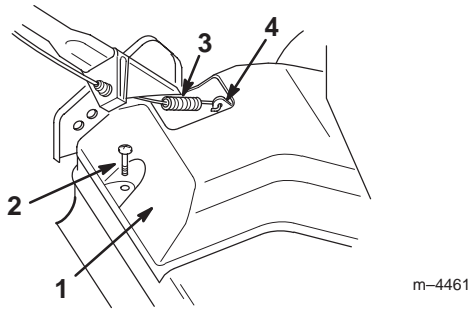

Figure 16
1. Remove the screw from the belt cover (Fig. 16).
2. Unhook the cable spring from the drive bracket (Fig. 16).